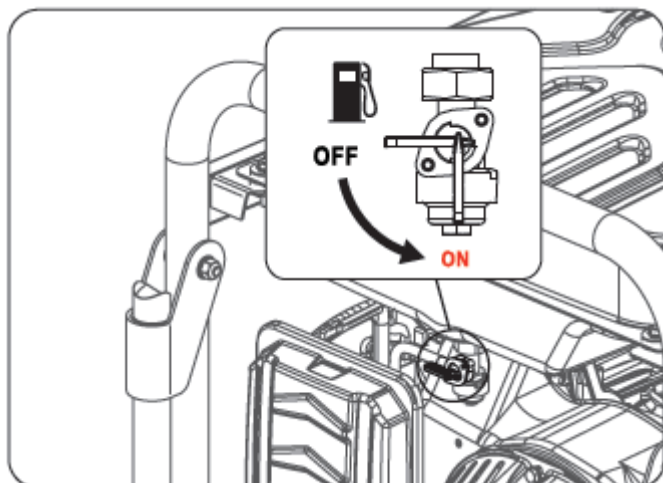

fig. 10
- Turn fuel valve to the "ON" position. (See Fig.10)